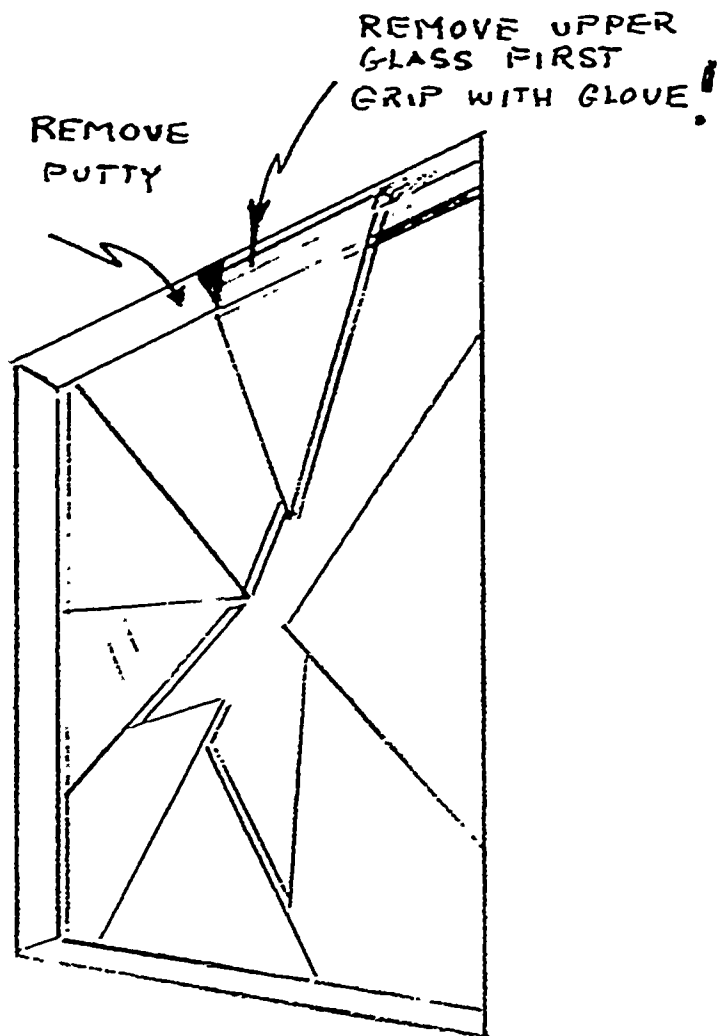

FIG. 239
1. Start at top of lite and remove putty with a knife. See figure 239.